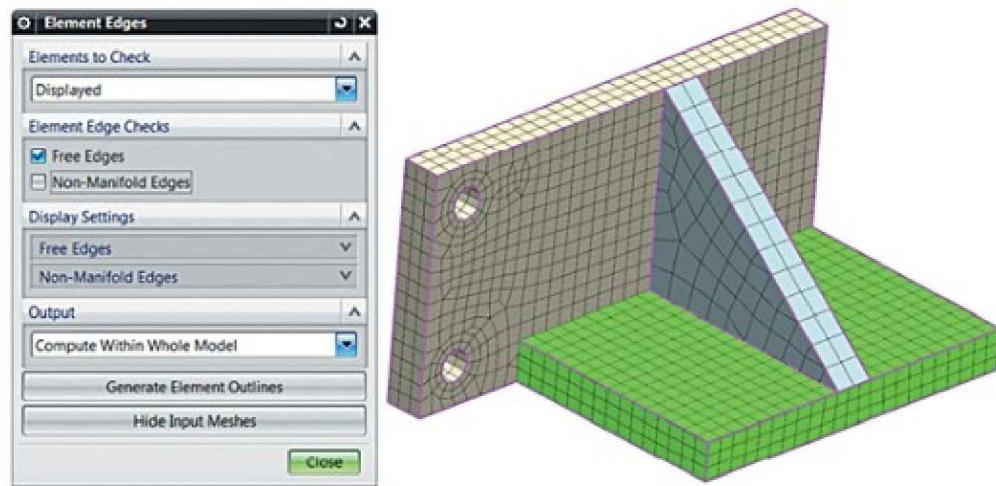

Figure 3.61. Checking free outlines of meshes
- Select *Element Outlines* to check for free element outlines. As a result, all free outlines are highlighted (Figure 3.61). You can use this check to find elements within the model that are not connected to neighbour elements.